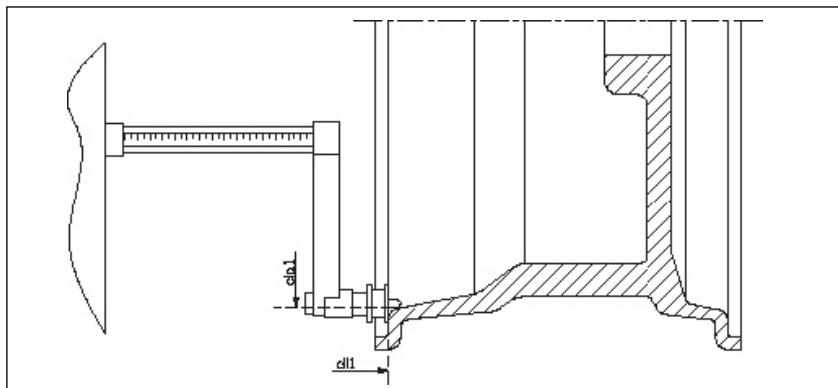

Fig.F3.7-ALS1 Automatic acquisition of outer-side rim distance in ALS1 & ALS2 modes
- 2) Pull out the distance/diameter gauge against the inner side of the rim. Based on the difference between the ALS1 and ALS2 modes, the position of the pull-out gauge is different. See Fig. F3.7 and F3.8.
- 3) Pull out the distance/diameter gauge to abut on the position of the inner side of the rim where the balance weight will be arranged. The ALS1 mode is shown in Fig. F3.7, and ALS2 in F3.8.